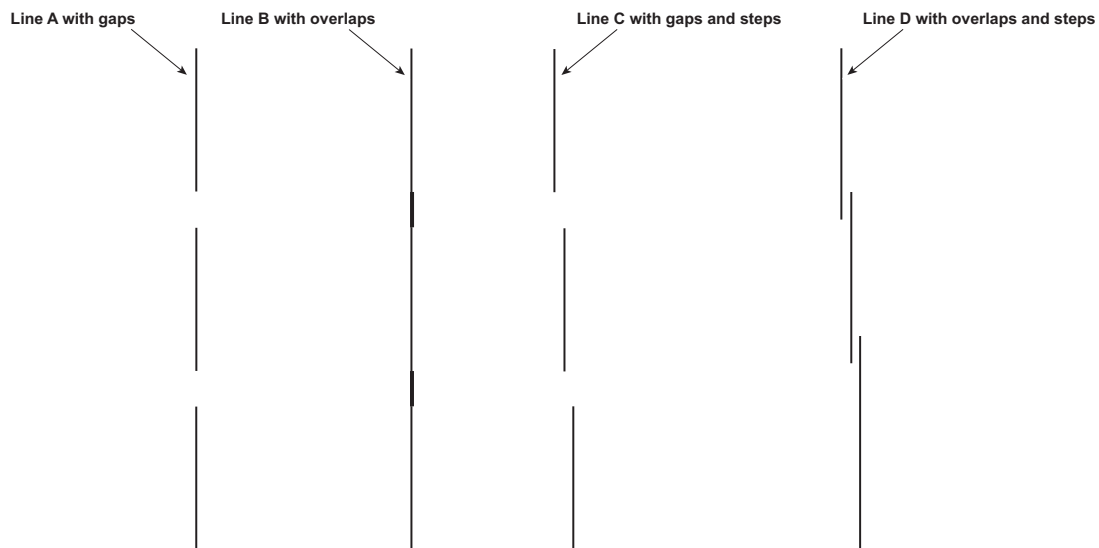

Figure 5 Illustration of lines showing gaps and overlaps between Banner Windows
- 3 Run the banner tracking setup file and fine-tune the Encoder Resolution value as required to eliminate line gaps or line overlaps as shown by lines "A" through "D" in Figure 5. When gaps or overlaps are eliminated, proceed to Step 4.